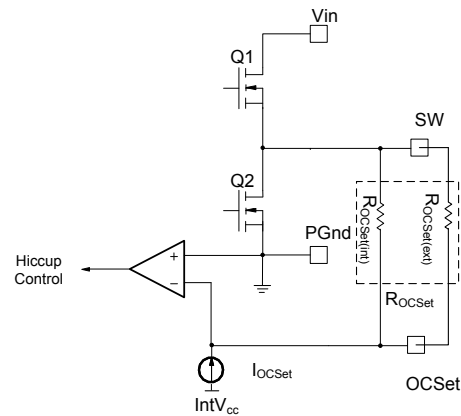

Figure 11: Connection of over-current sensing resistor
The over current protection is performed by sensing current through the  $R_{DS(on)}$  of low side MOSFET. This method enhances the converter's efficiency and reduces cost by eliminating a current sense resistor. As shown in Figure 11, an external resistor ( $R_{OCSet}$ ) is connected between OCSet pin and the switch node (SW) which sets the current limit set point.